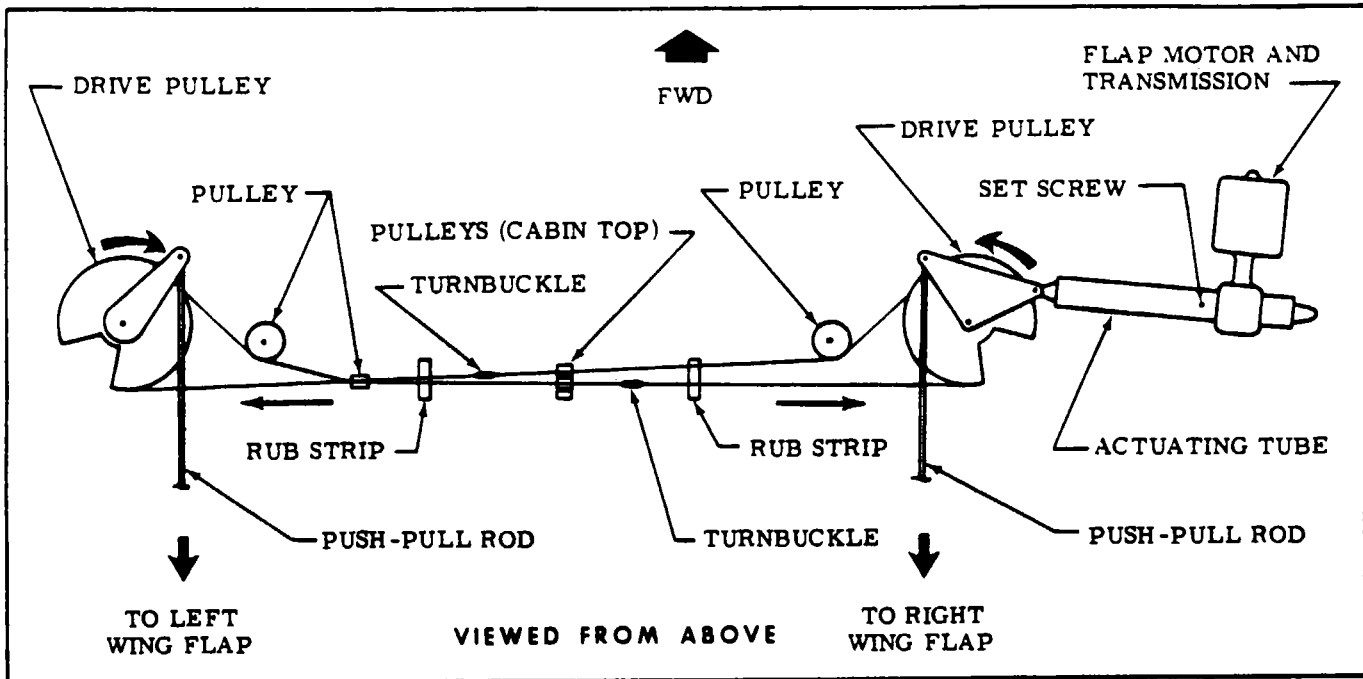

Figure 7-5. Flap System Schematic
If control cables are not connected to left and right drive pulleys, actuating tube (5) and push-pull rods (14) must be disconnected before installing cables. If drive pulleys (13) are not installed, attach control cables before installing drive pulleys in the wings as illustrated in figure 7-5.
- Adjust both push-pull rods (14) to 8.83±.12 inches between centers of rod end bearings, and then tighten locknuts on both ends. Connect push-pull rods to flaps and drive pulleys.